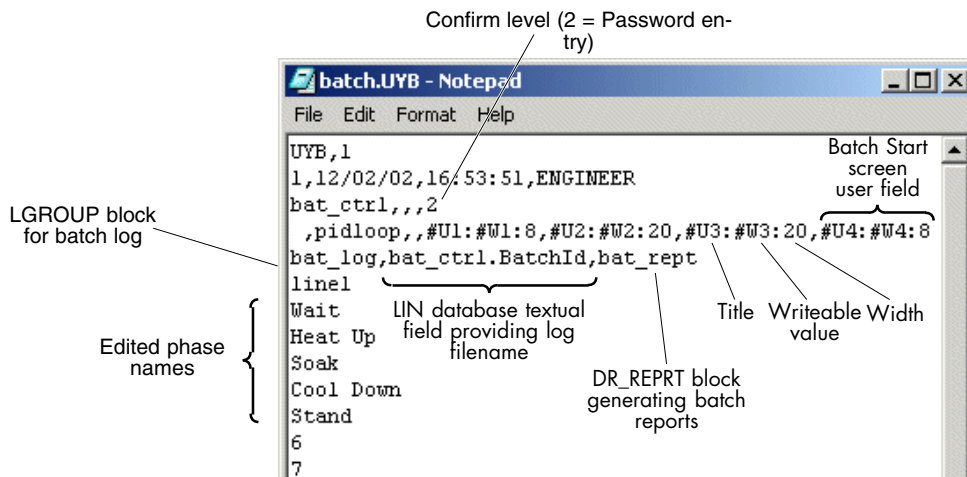

Figure 6-7 The edited batch.uyb file
- 3 Start by editing line 3 of the file, according to Figure 6-7, which shows the fully-edited batch file. The three commas are vital as they ensure that the '2' occupies the *fourth* field in the line. This field determines what user confirmation is required when the batch is started.
4 In line 4, add fields 4, 5, 6, and 7 exactly according to Figure 6-7. Each of these fields defines an extra line in the **Batch Start** screen. Each field consists of three parts separated by colons (:), as follows:
- 6 Finally, edit lines 7 to 11 to show meaningful phase names corresponding to each segment of the setpoint program. Use the ones suggested in Figure 6-7 if you wish, they need not be the same as the setpoint program’s segment names. If you delete *all* the default numeric phase names, instrument uses the program segment names instead.